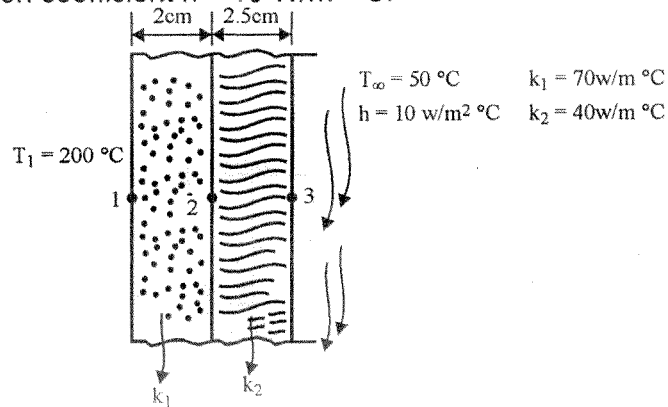

Fig. 5
15. Determine the temperatures at nodes 2 and 3 of the composite wall (fig. 5). Wall temperature $T_1 = 100 \text{ }^\circ\text{C}$. Outside air temperature is $50 \text{ }^\circ\text{C}$ with convection coefficient $h = 10 \text{ W/m}^2 \text{ }^\circ\text{C}$.